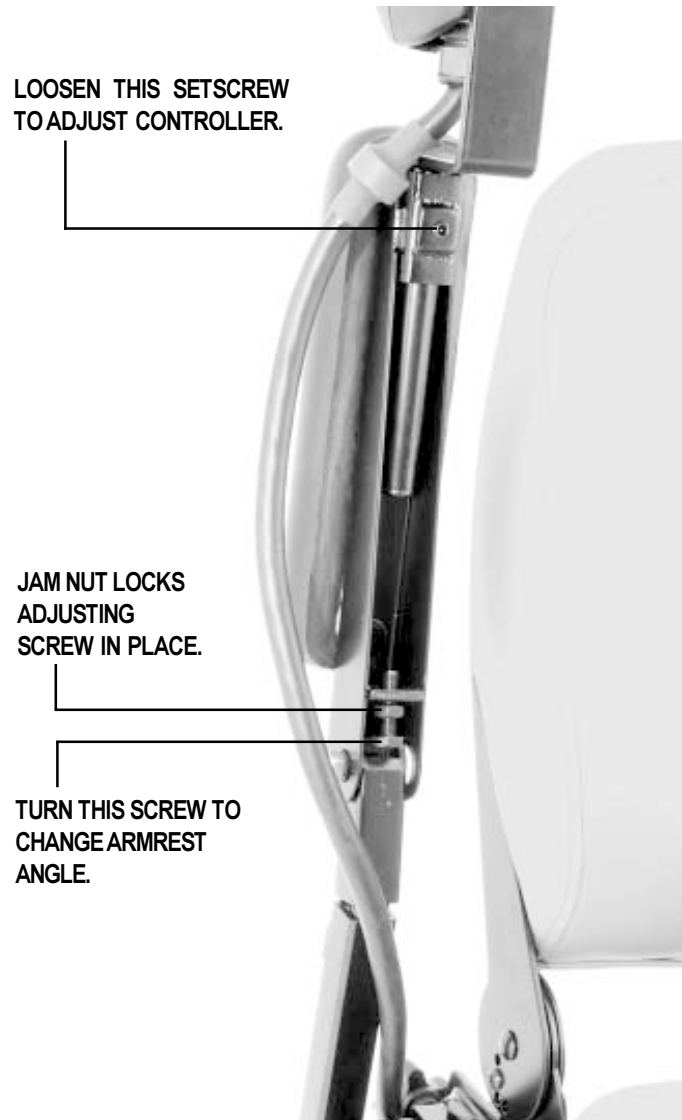

Figure 16. Armrest Angle And Controller Extension Adjustment
You can adjust the armrest angle to fit your specific needs. See figure 16.
2. Use a 1/2-in. wrench to loosen the jam nut. See figure 16.
The controller can easily slide out away from the armrest, or in toward the armrest. See figure 16.